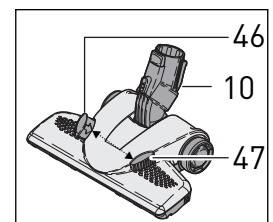

Figure 20
### Kombi Nozzle (optional) - Figure 20
The Kombi nozzle (10) is adjustable for carpet or hard floors. To set for carpet, slide the up arrow button (46) to the right until it clicks into place. The hard floor dusting brush will raise up allowing the head to move over the carpet. To set for hard floors, slide the down arrow button (47) to the left until it clicks into place. The brush will lower to gently sweep your floors. **The slider in Figure 20 is set in the position for hard floors.** Remove the Kombi nozzle from the telescopic tube to clean. Fibers and hair can be pulled out of the bristles manually, or vacuum the bristles with the telescopic tube. The brush strip is removable for cleaning and replacement.